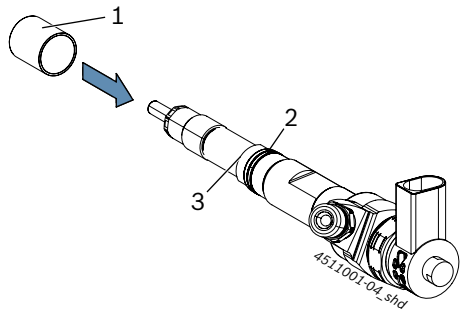

Fig. 4: Sliding the adapter sleeve onto the CRI
3. If an adapter sleeve is needed, slide the corresponding adapter sleeve (Fig. 4, item 1) up to the stop (Fig. 4, item 3) on the CRI.
4. In the following steps, make sure the adapter sleeve remains against the stop (Fig. 4, item 3) on the CRI and does not slip down.